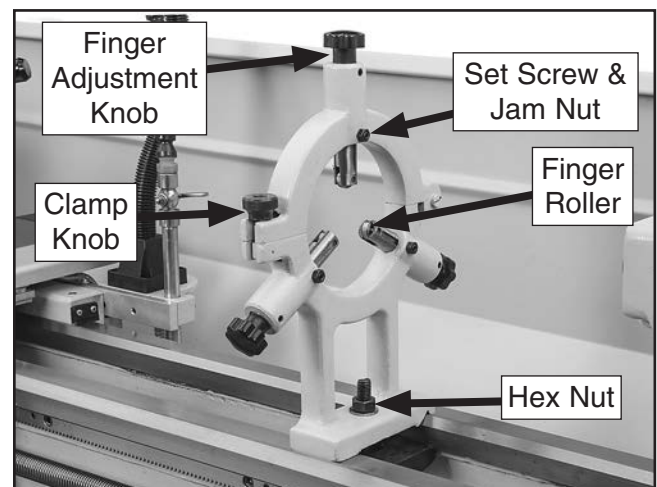

Figure 55. Steady rest components.
Familiarize yourself with the steady rest components shown in **Figure 55** to better understand the controls.
3. Position the steady rest with the base clamp where required to properly support the workpiece, then tighten the hex nut shown in **Figure 55** to secure it in place.